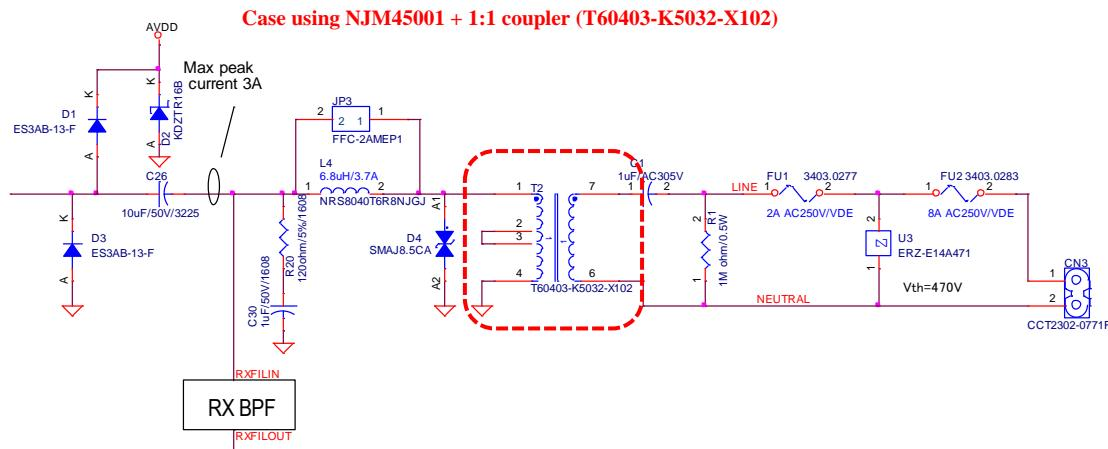
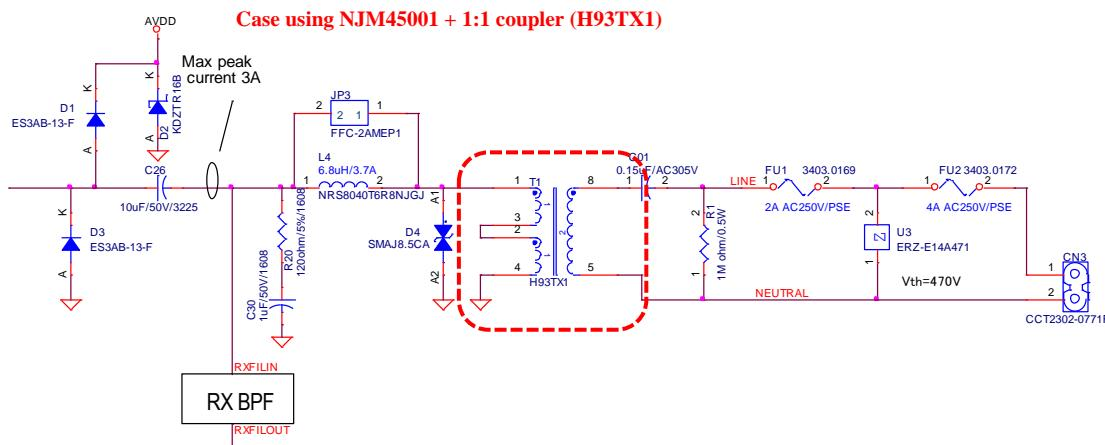

Figure 3-3 The recommended 1:1 PLC coupler (T60403-5032-X102) connection example (CENELEC-A, FCC / ARIB, Global compatible)
Figure 3-4 The recommended 1:1 PLC coupler (H93TX1) connection example (ARIB compatible)
- The recommended PLC Coupler is T60403-5032-X102. In the case of ARIB, H93TX1 can also be used. The recommended 1:1 PLC coupler (T60403-5032-X102) connection example (CENELEC-A, FCC / ARIB, Global compatible) is shown in Figure 3-3, and the recommended 1:1 PLC coupler (H93TX1) connection example (ARIB compatible) is shown in Figure 3-4 shows.